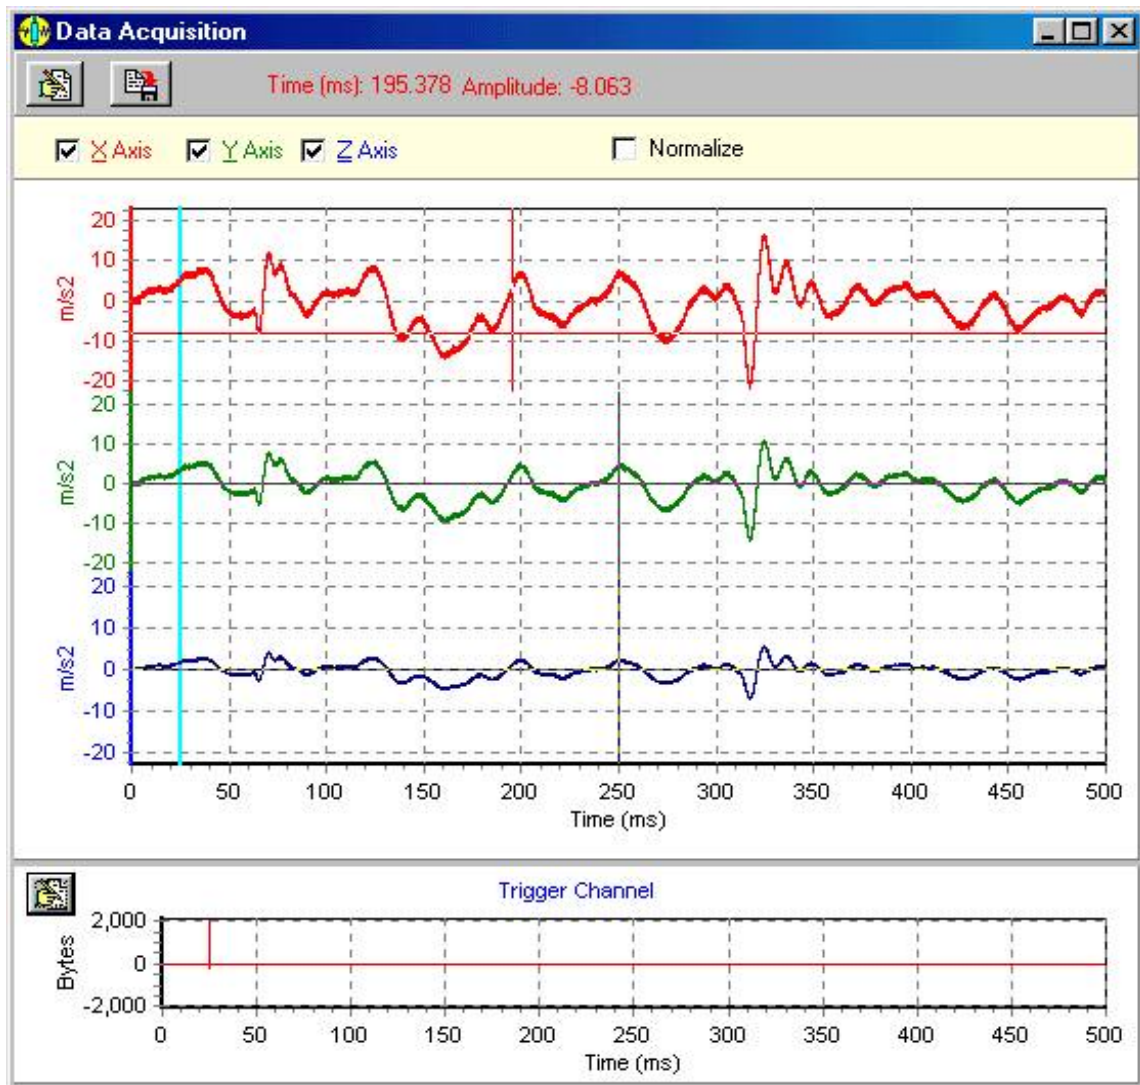

Figure 6. Example of seismic data acquired in the Data Acquisition menu.
(1) Begin Acquisition - The *Begin Acquisition* option is chosen once the data acquisition parameters have been specified. The user may abort the operation by pressing the *Stop Acquisition* push button. *SC3-DAC* stores the current data acquisition parameters in the *SC3dac.ini* file and these values become the default parameters. The captured seismic data appears as illustrated in Figure 6.
The trigger channel is displayed in the bottom chart of Figure 6. The trigger channel displayed contains both pre trigger and post trigger information. The top chart of Figure 6 contains the acquired seismic time. The light blue line illustrated in Figure 6 signifies the trigger time.